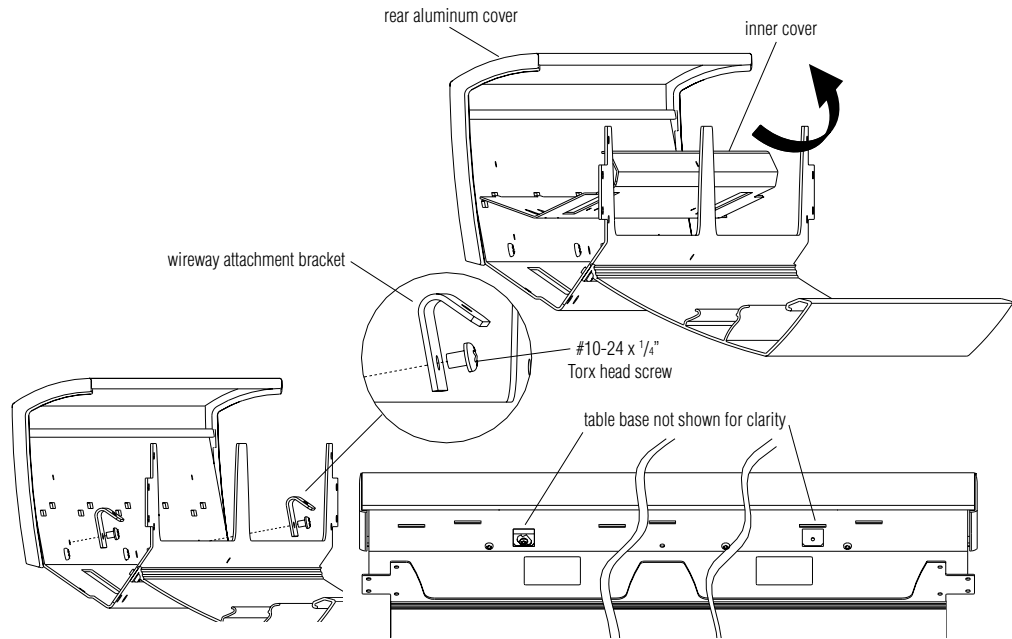

Figure 15
1. Prepare trough by removing the inner cover (Figure 15). Lift up on the return lip of the cover to swing cover up, then remove cover and set aside near the table.
2. Install wireway attachment brackets (2 per trough) using #10-24 x 1/4" Torx head screw. The brackets attach near the outside edge of the receptacle holes as shown in Figure 15.